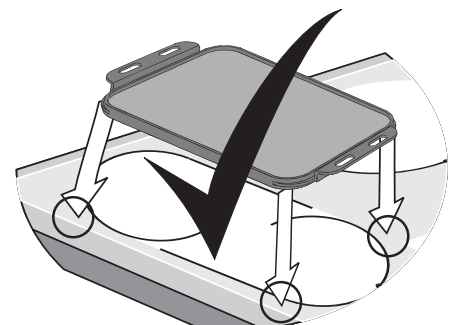

Figure 6 - Make sure the feet of the griddle are not directly on the burners.
- Center the griddle over the left side elements. Make sure the feet of the griddle are not directly on the burners (Figure 6).